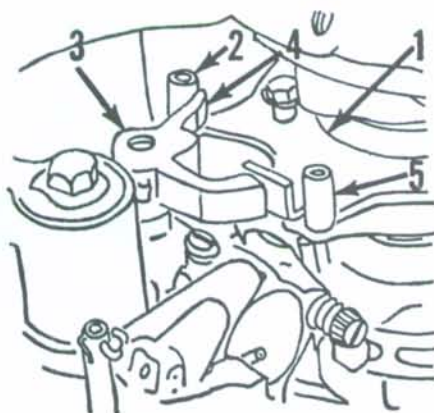

Fig. M7-7—Throttle control mechanism used on early six cylinder models.
On all models, slowly move the speed control lever in the "forward" position (engine not running) until the magneto advance stop just touches the crankcase. Refer to Fig. M7-7. Loosen the screws securing the throttle actuator assembly (1) to sector gear; then move the plate until 1/16-inch clearance exists between pickup finger (4) and pickup pin (2). Secure advance plate in this position.